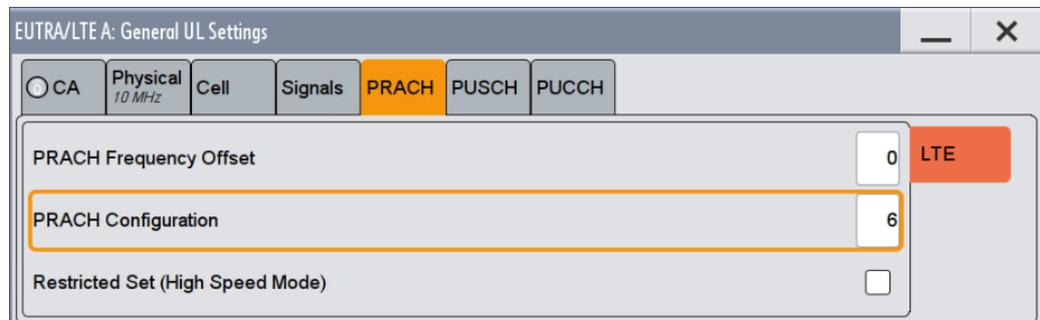

Fig. 3-213: PRACH Configuration
6. Set PRACH Configuration according to Table 3-77 or Table 3-78 (see Fig. 3-213).